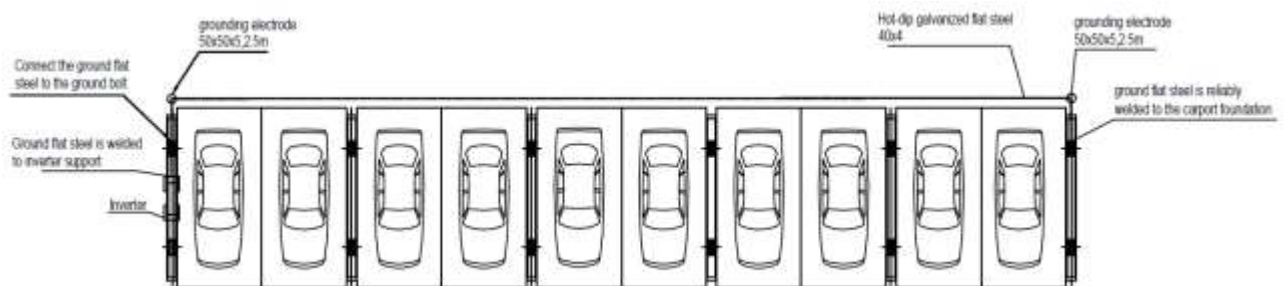
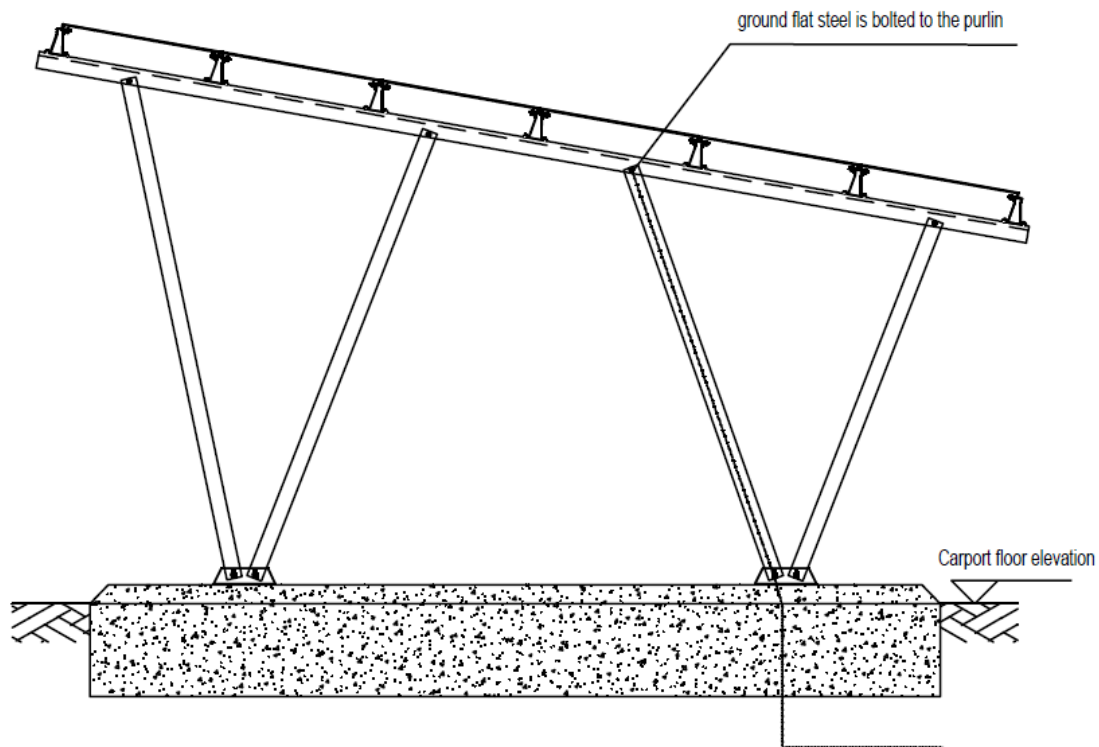

Figure 5.16 Layout of the grounding device
Figure 5.19 Carport grounding
2) Solar carports generally use at least 2 vertical grounding bodies, and more than 2 vertical grounding bodies are required for more than 10 parking spaces. The number of vertical grounding bodies is mainly based on the construction drawings, as shown in Figure 5.16.
5) The horizontal grounding body (hot-dip galvanized flat steel) is laid underground (below the frozen soil layer), and the laying should be straight and the distance from the ground should be at least 800mm, as shown in Figure 5.16.
9) The horizontal grounding body in the inverter side should be laid along the cable tray and reliably connected to the inclined beam and inverter bracket through bolts. The horizontal grounding body in the other side should be reliably welded to the carport foundation, as shown in Figure 5.16 and Figure 5.19.